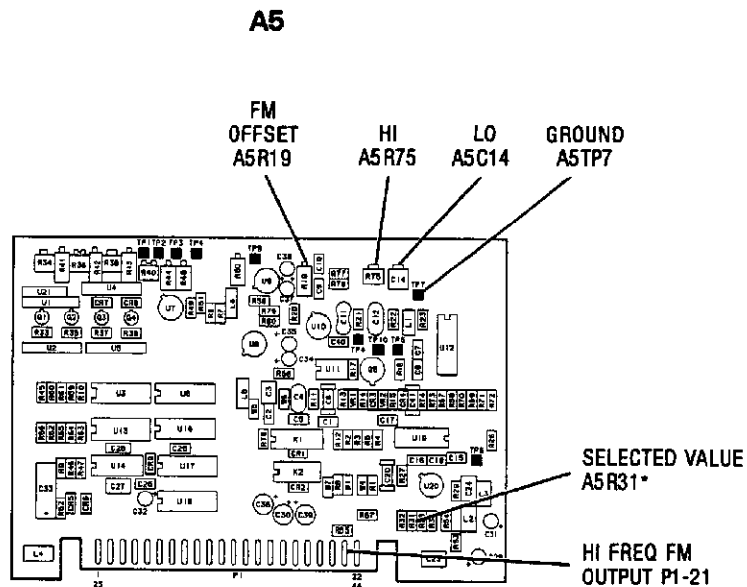
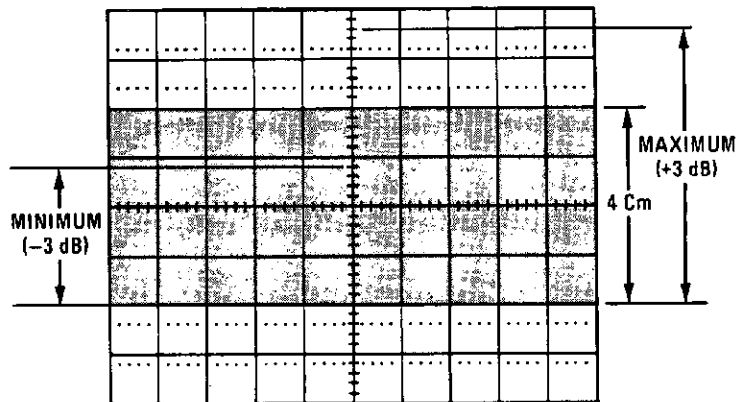

Figure 5-46. Location of A5 FM Driver Adjustments
Figure 5-47. FM Flatness Tolerance, DC to 2 MHz
2. Connect the DVM between A5 pin 21 and A5TP7 (HIGH FREQ FM RET). Refer to Figure 5-46 for adjustment procedure locations. Adjust A5R19 (FM OFFSET) for a DVM reading of  $0.000 \pm 0.001$  Vdc.
6. Manually sweep the Function Generator frequency from DC to 100 kHz. Select resistor A5R31 so that the amplitude of the waveforms at Function Generator frequencies of 100 Hz and 100 kHz are the same  $\pm 0.2$  divisions on the CRT. Refer to Figure 5-46 for the location of A5R31. Refer to Table 5-3 for the allowable range of values for A5R31.
7. Manually sweep the Function Generator frequency from DC to 10 MHz. Adjust A5C14 (LO) and A5R75 (HI) controls to obtain the most constant overall response from DC to 10 MHz. Repeat this step several times.
8. Check that the  $\pm 3$  dB FM flatness supplemental characteristic is met between DC and 2 MHz as follows. Manually sweep the Function Generator frequency between DC and 2 MHz. On the Oscilloscope, note the maximum and minimum response points as shown in Figure 5-47. The maximum point (+3 dB) can be as high as 5.6 divisions, and the minimum point (-3 dB) can be as low as 2.8 divisions.